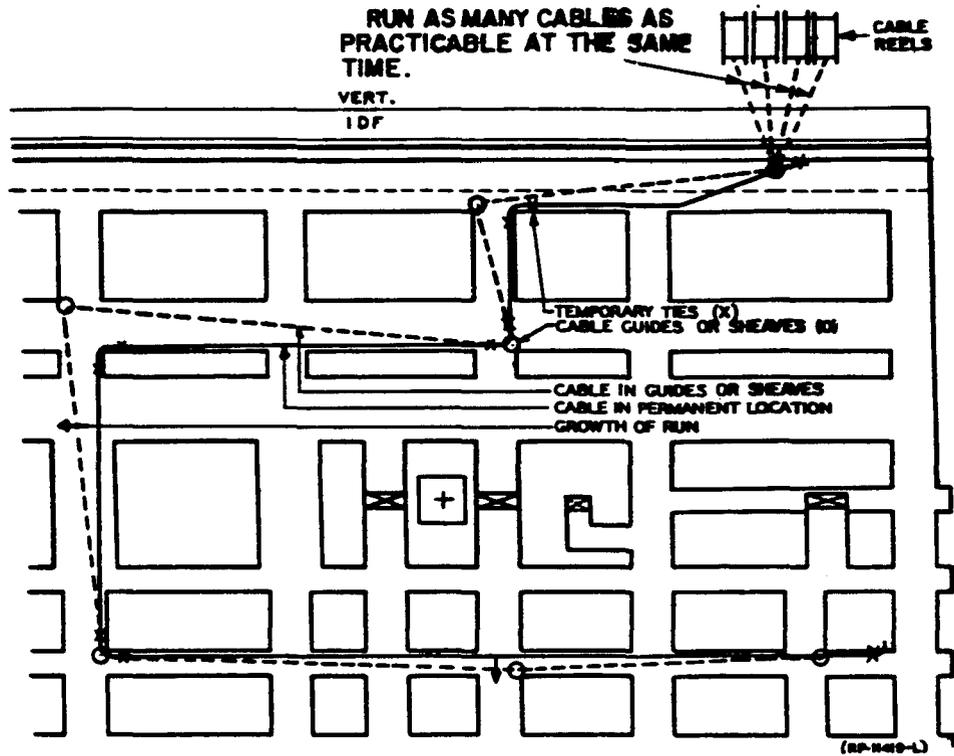

FIG. 16 TYPICAL ARRANGEMENT OF CABLE GUIDES (PAR. 3.61)
3.61 Place Cable Guides (R-4397 or R-4321) over equipment, at turns, and along the cable runs at frequent enough intervals to prevent the cables from rubbing on the framework, cable racks, threaded rods and other cables as they are being pulled in. Use Cable Guide Brackets (R-2062) as required to support guides above existing cable runs. These brackets are required to provide additional height on cable runs where additional cable is being added to existing runs. A typical arrangement of cable guides is shown in FIG. 16.